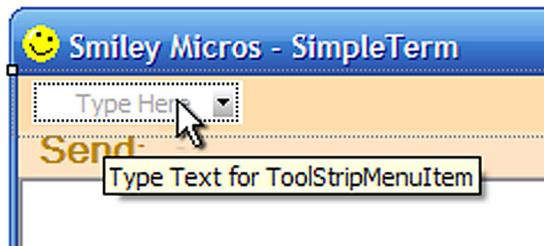

Figure 15: Add menu item
- Select the MenuStrip and highlight the 'Type Here' box. (Figure 15: Add menu item)